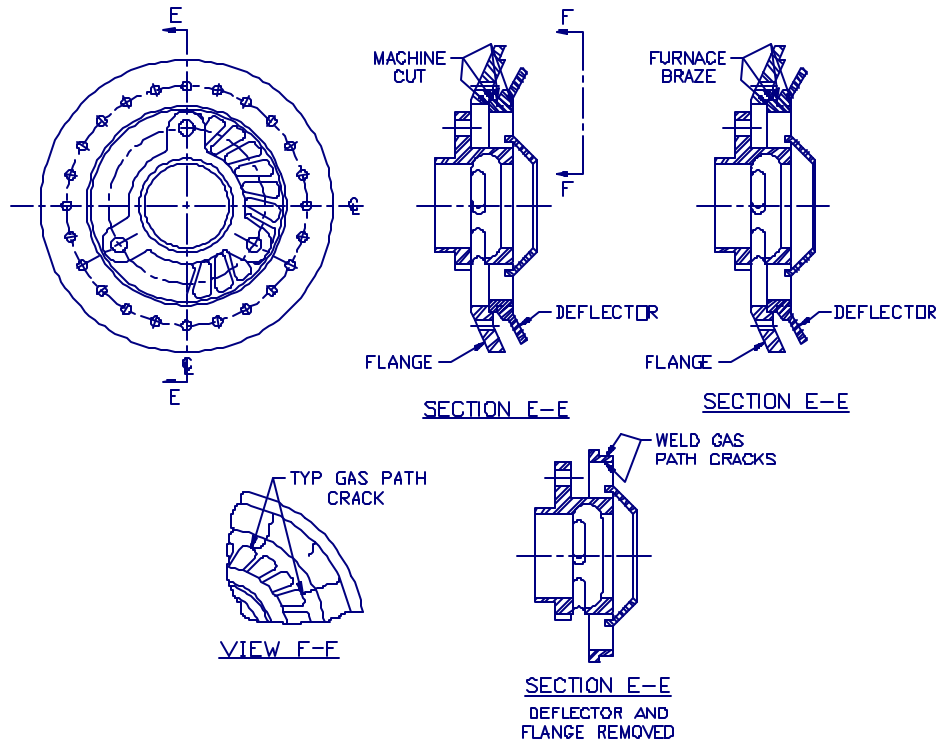

Figure 1
1. Remove and replace damaged deflectors as follows (see Figure 1):
3. Weld repair vane gas path cracks as follows (see Figure 1):